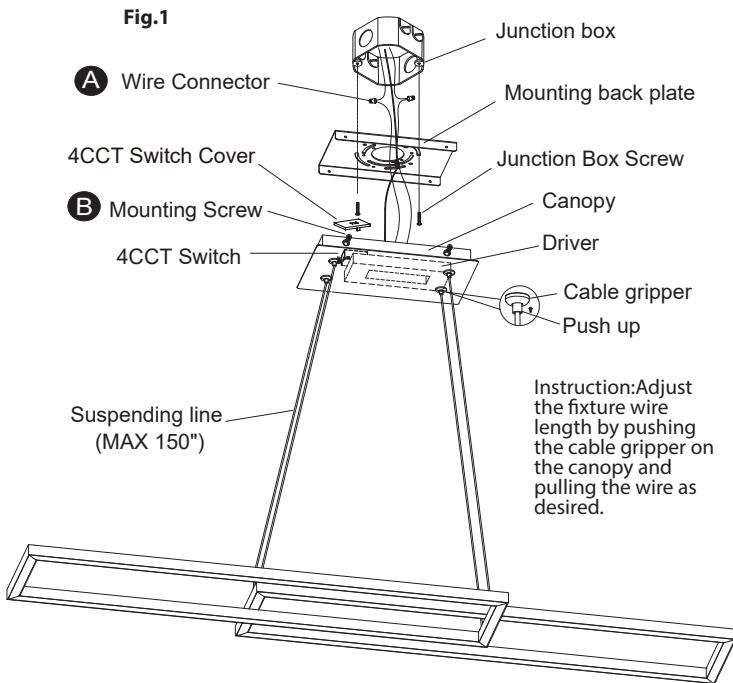

Fig.2 Wiring
CONNECTING THE WIRES (Fig. 2 / Fig. 3)
8. Connect the driver's input wires to junction box wires as shown in Fig. 2, make sure that all wire connectors(A) are secured. If your outlet box has a green or bare copper ground wire, connect the fixture's ground wire to it. Otherwise, connect the fixture's ground wire directly to the back plate using the screw provided. After wires are connected, tuck them carefully inside the junction box.